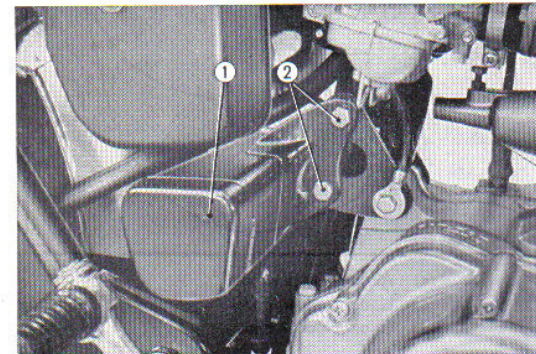

Fig. 4.58 Removing the tool box
4. The tool box can be removed from the frame by unscrewing the 8mm nut on the rear engine hanger plate and pulling out the 8mm hex bolts. (Fig. 4.58)